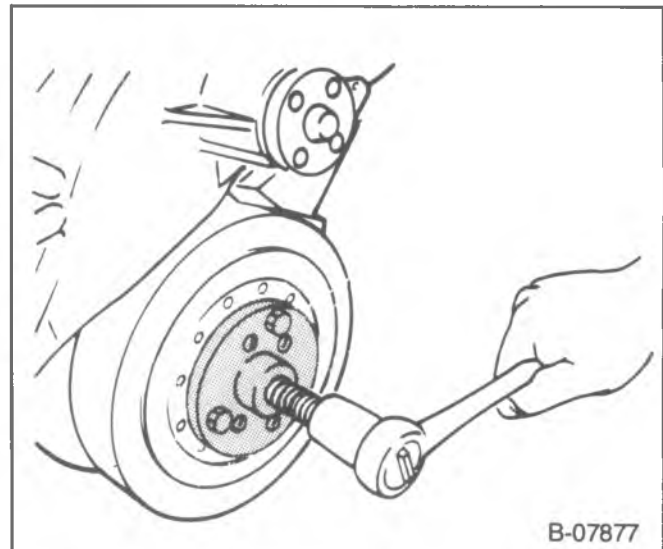

Figure 16—Removing the Torsional Damper
**Remove or Disconnect (Figure 16)**
5. Torsional damper. Use J-23523-E (figure 16).